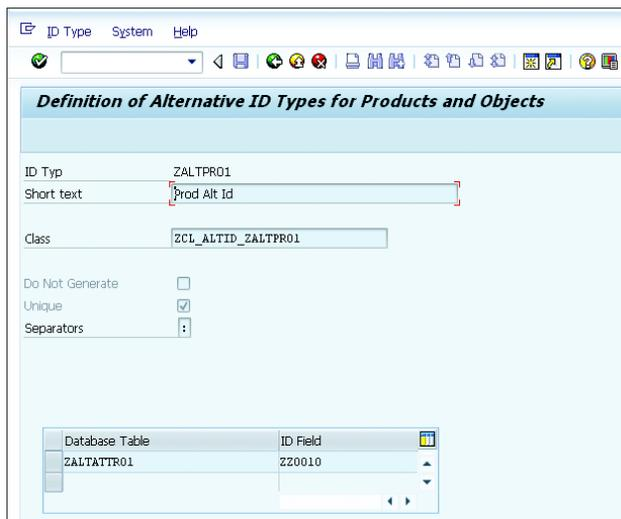

Figure 4.23 Alternative ID Type
- To create new ID types, access IMG • CROSS-APPLICATION COMPONENTS • SAP PRODUCT • ALTERNATIVE PRODUCT IDs • DEFINE ID TYPES. Assign the field and the table of the set type to the ID types. The ID type is used in the product maintenance; that is, it generates the class with the search methods and a function group with the function module (FM) and screens as shown in Figure 4.23. If you want to implement any additional methods, you can use the same class and add the functionality.